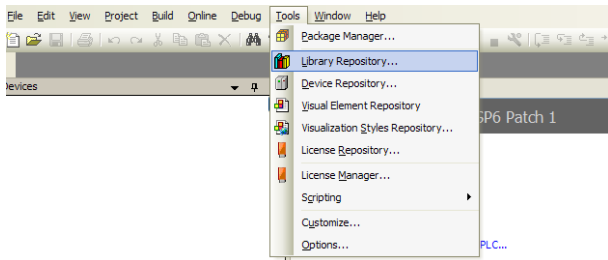

Figure 4-1
1. Open CODESYS V3.5 SP6, and choose **Tools -> Device Repository**, as shown in Figure 4-1. If **Library Repository** is not displayed, you can choose **Options** to set it to be displayed.